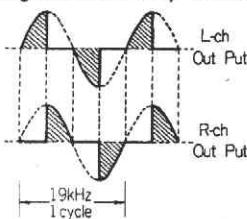

Fig. 2-2
- Fig. 2-2 shows how the pilot signals are cancelled in the IC HA11223W.